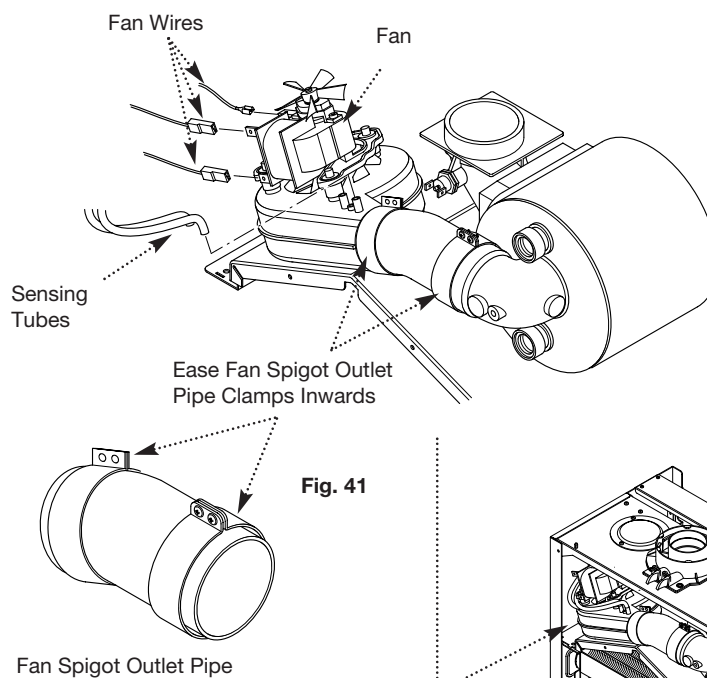

Fig. 41
7. Note the positions of the two sensing tubes on the fan spigot and three wires on the fan motor and remove them (Fig. 41).